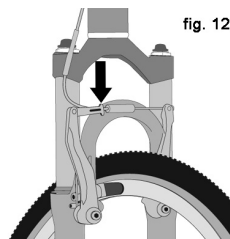

fig. 12
3. Some bicycle brakes, such as disc brakes (fig. 11) and linear-pull brakes (fig. 12), are extremely powerful. Take extra care in becoming familiar with these brakes and exercise particular care when using them.
Most rim brakes have some form of quick-release mechanism to allow the brake pads to clear the tire when a wheel is removed or reinstalled. When the brake quick release is in the open position, the brakes are inoperative. Ask your dealer to make sure that you understand the way the brake quick release works on your bike (see figs. 12, 13, 14 & 15) and check each time to make sure both brakes work correctly before you get on the bike.